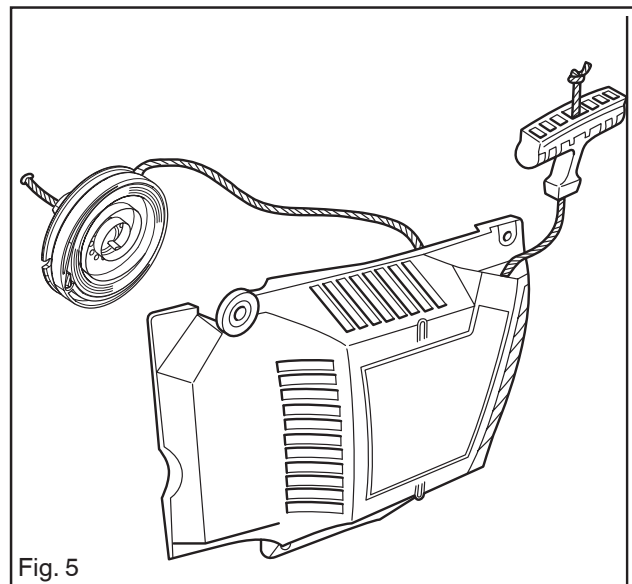

Fig. 5
3. If a new cord is to be fitted, push the free end in the hole in the starter pulley. Take hold of the end with pointed pliers inside the pulley and pull up the cord. See fig. 5.
6. Pull out the cord through its hole in the housing and fit the handle and secure it with a double knot. See fig. 5